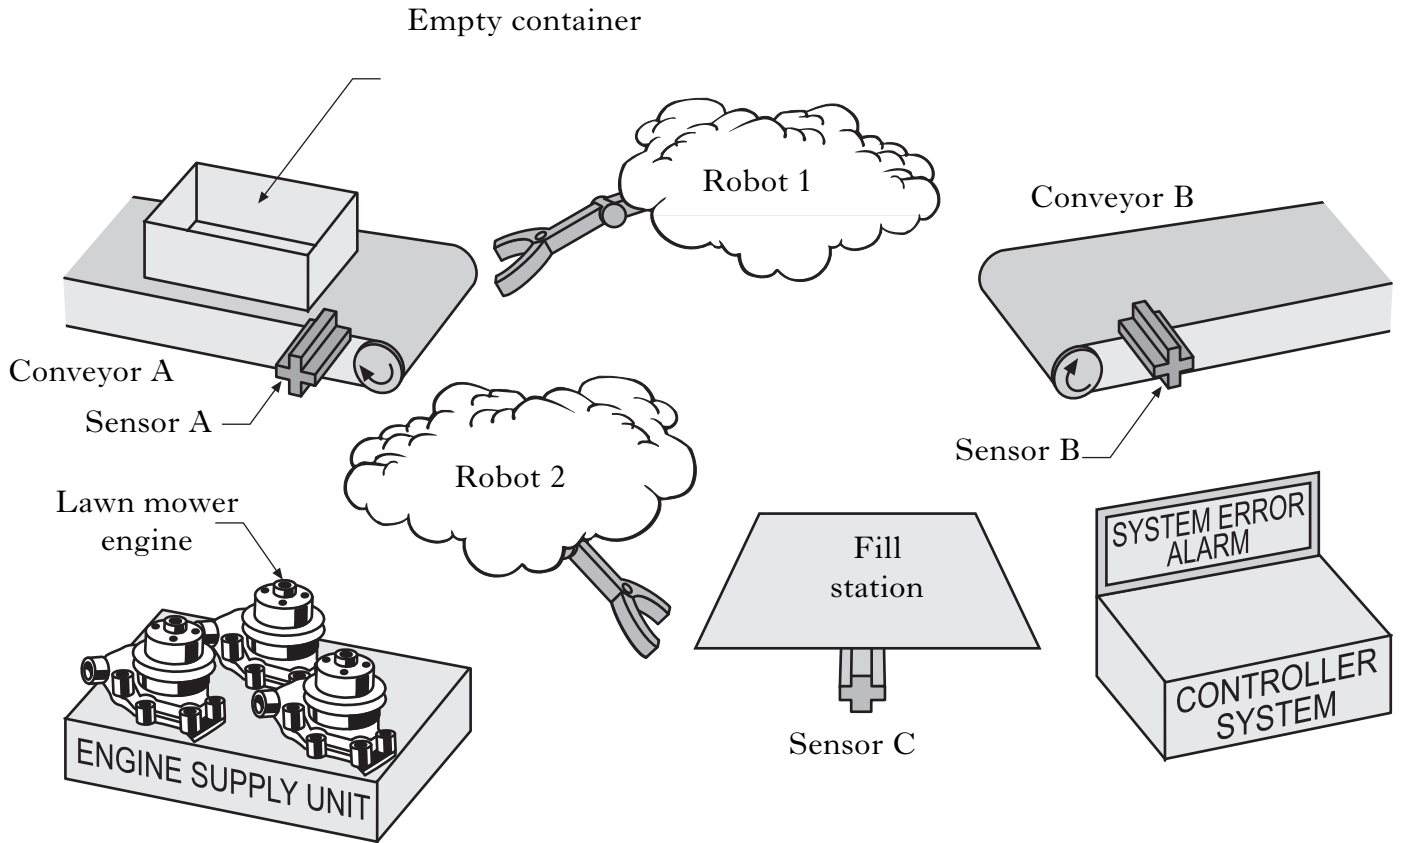

Figure Q13
13. Figure Q13 illustrates a robotic work cell which places **one** lawn mower engine in an empty container. The work cell is controlled by a separate controller system which reads the sensors as required. Initially all Robots are in their home position and both conveyors are running.
- (c) Briefly explain **three** safety features which you would add to the system in Figure Q13. 3